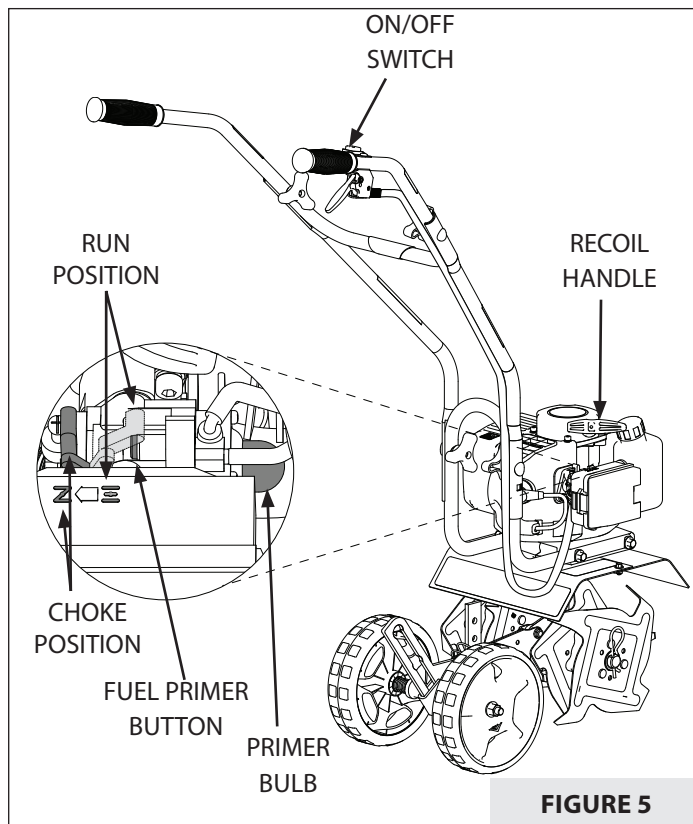

FIGURE 5
2. Move choke lever to the CHOKE position. **SEE FIGURE 5.**
4. While depressing the fuel primer button, push the primer bulb ONCE and release the button. **SEE FIGURE 5.**
8. Move choke lever to RUN position and squeeze throttle lever to desired speed. **SEE FIGURE 5.**
1. Before removing the air filter cover, move the choke lever to the **CHOKE** position. **SEE FIGURE 5.**